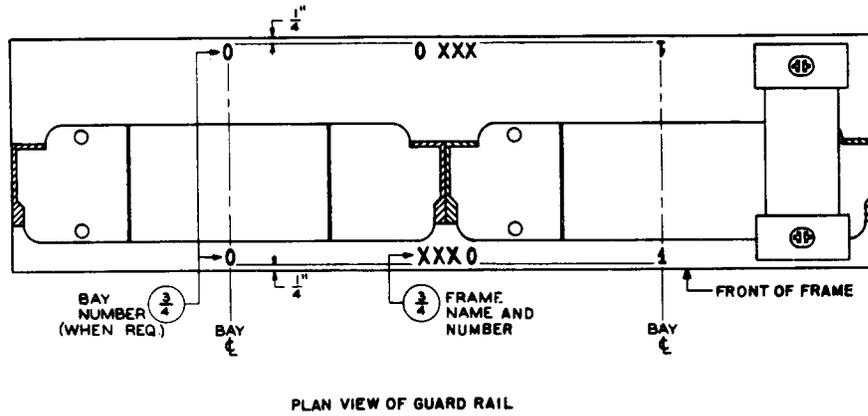

Fig. 5 – Numerical Bay Stamping for Double-bay Frames With Bulb-angle Uprights and Sheet Metal Base
2.08 Bay Stamping: When the left and right bays of double-bay frames are to be arbitrarily identified, they shall be "0" and "1", respectively, as viewed from the front. Show stamping on frame base in the center of each bay, both front and rear. (See Fig. 5.) Sender units made up of two horizontally adjacent mounting plate groups shall be considered as 2-bay frameworks.